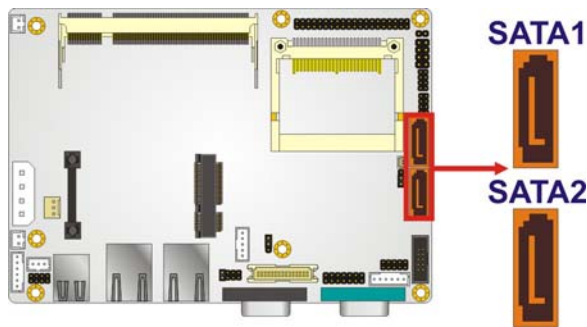

Figure 3-15: SATA Drive Connector Locations
- CN Location:** See **Figure 3-15**